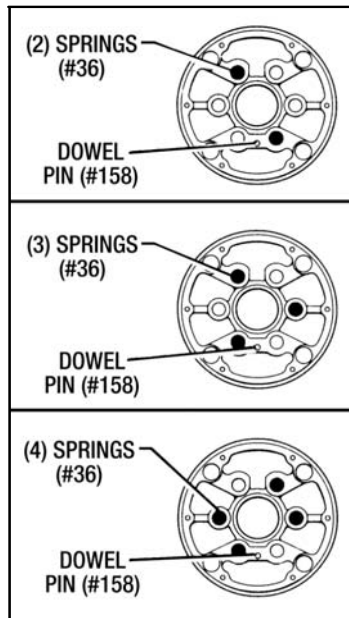

Figure 3.4 - Spring Location
2. Place correct number of Springs (#36) into spring pockets in the housing. Install Dowel Pin (#158) into Housing (#8) See Figure 3.4 below for quantity used and arrangement).